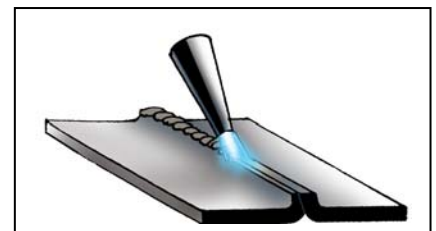

Figure 1
12. Carry the bead forward by moving the torch with a smooth, uniform motion. The flanges are used to add filler material to the weld. Refer to Figure 1.